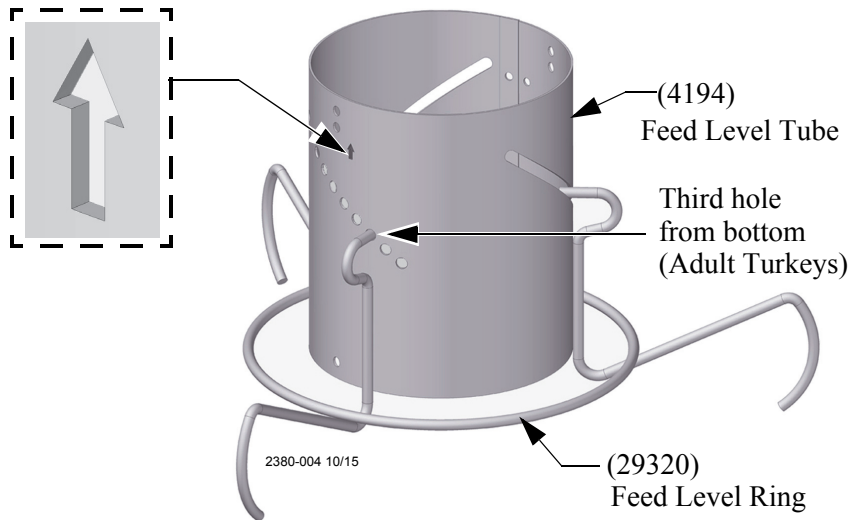

Figure 25. Feed Level Tube and Ring
4. Attach the Feed Level Tube (4194) to the Feed Level Ring (29320) as shown in (See Figure 25.)